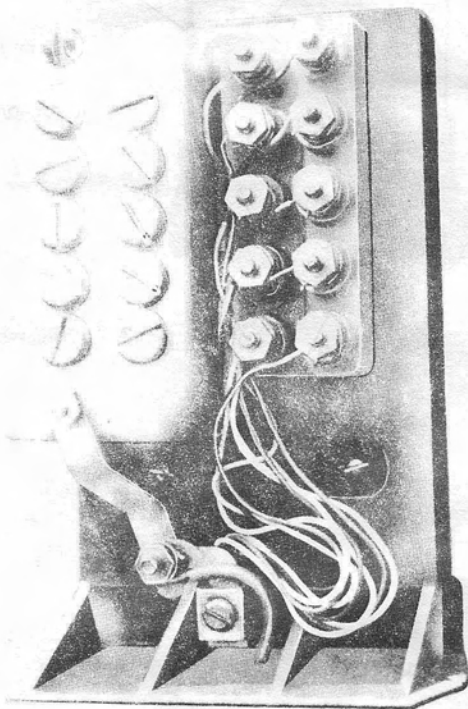

Fig. 19—142-Type Protector in C Customer Service Closure
3.32 The 142-type protector (Fig. 19) is intended for use where the station is served by 5-pair service or drop wire. It may be mounted in either a C or D customer service closure.